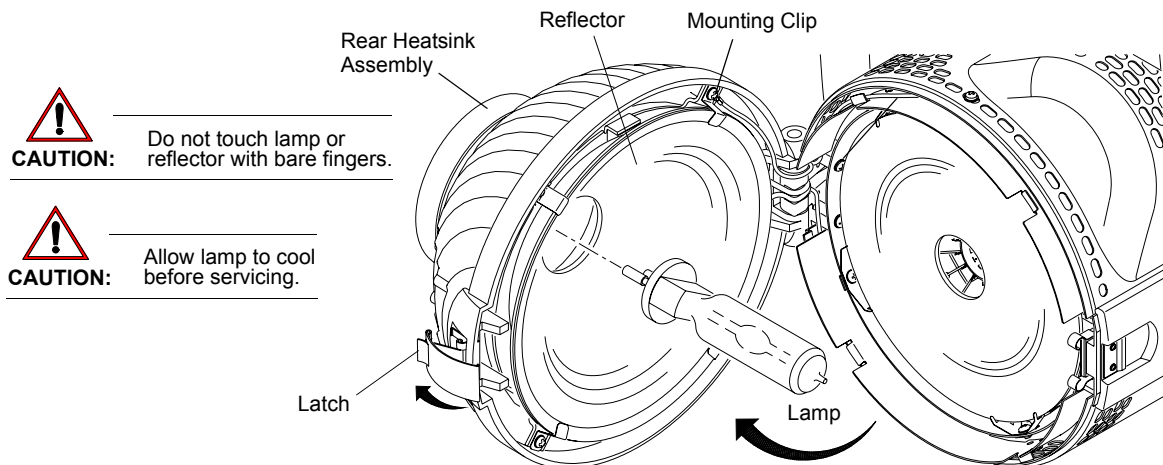

Figure 4-2: VL5Arc+ Lamp Replacement
Step 3. Unlatch and swing open rear heatsink assembly (**Figure 4-2**).